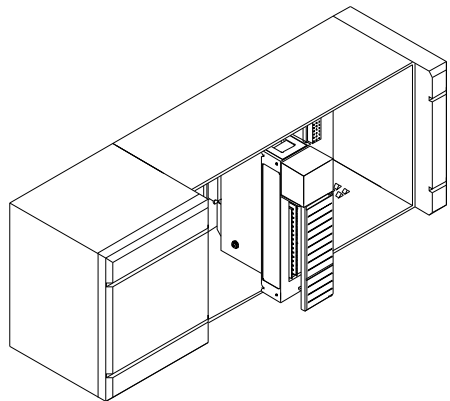

FIG. 3-5 MODULE INSTALLED IN SLC CHASSIS
The I/O Connector at the front of the module connects the module to the load sensors and relays, or the HI 215IT Junction Box depending on how many load sensors are installed in the weighing system. See below for the pin-out diagram. The pin-out diagram is located on the inside of the module door. (See Fig. 3-5)
- Step 1. Open the Module door to gain access to the I/O connector. (See Fig. 3-5)